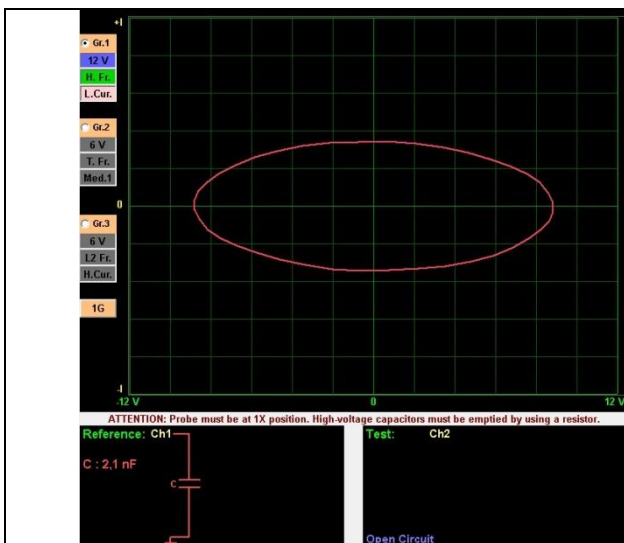

Figure 74: 1.8 nF Capacitor VI Graph
The Figures 74, 75, 76 and 77 show the Current/Voltage (VI) graphs, equivalent circuit diagrams and values for the capacitors.